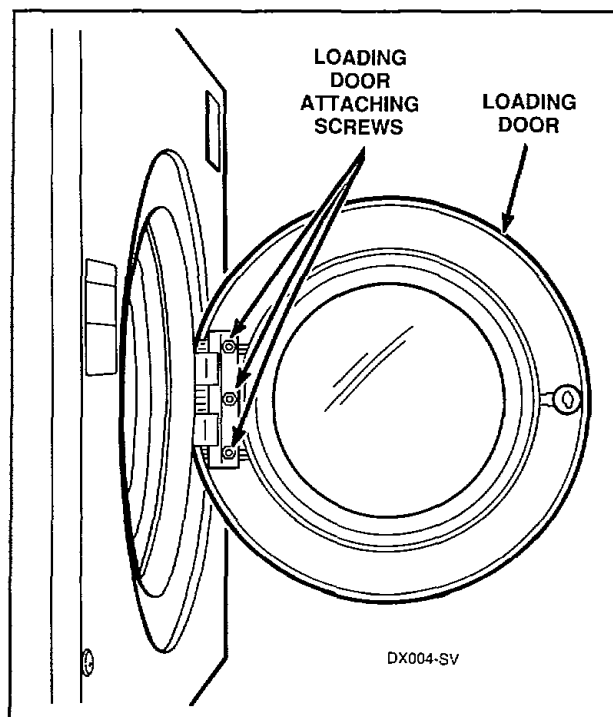

Figure 21
- l. While supporting loading door, remove three screws and lockwashers holding loading door to hinge retainer and remove door, *Figure 21*.